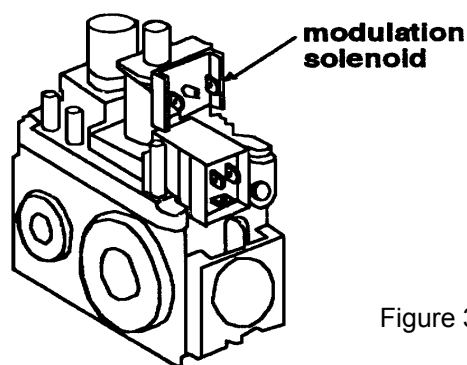

Figure 3
5. Plug the orange cable labeled "Solenoid" to the modulation solenoid of the gas valve. See Fig. 3.